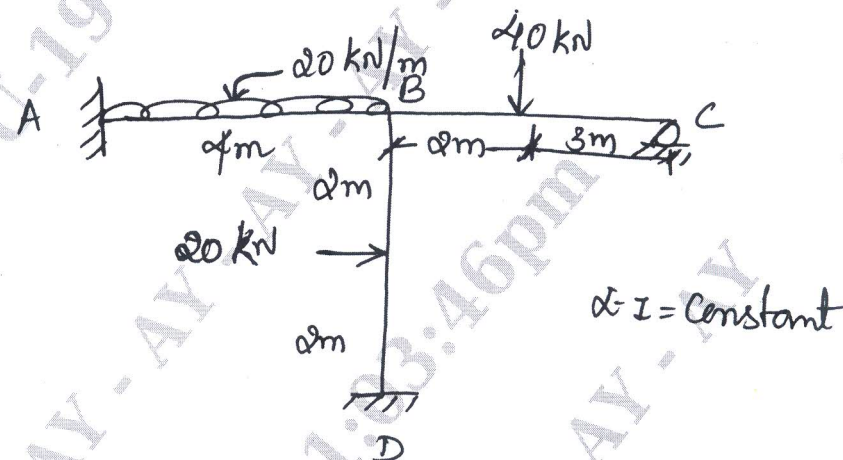

Fig Q9
- 9 Analyze the frame shown slope deflection method. Draw BMD and elastic curve. Ref Fig Q9.